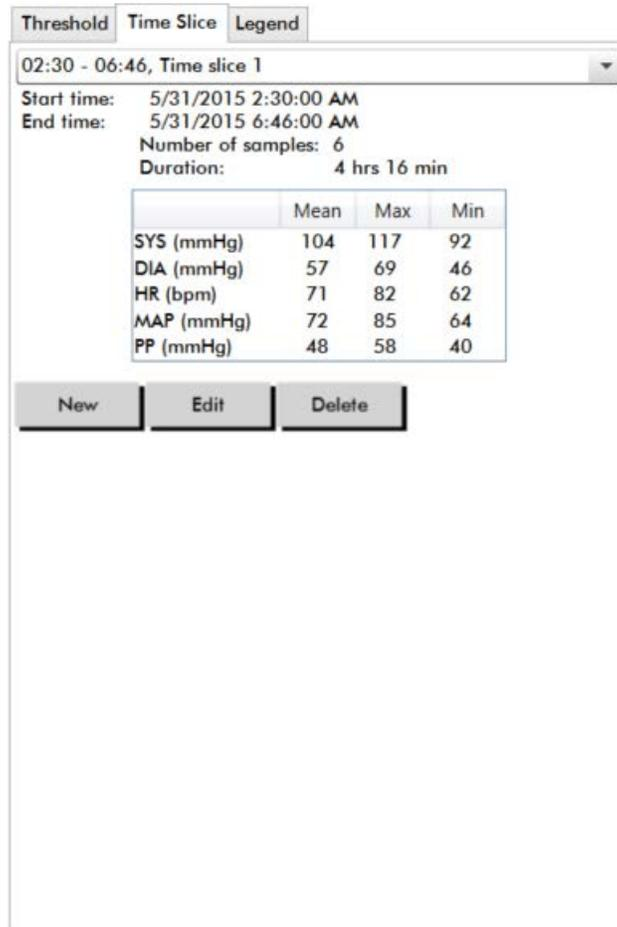

Figure 16: ABP Data Graph, Time-Slice Tab
1. Open a study in the **ABP Data** tab. Within the **Overview Graph** tab, navigate to the **Time-Slice** tab located to the right of the graph view. (Figure 16).
1. Open an ABP study and click the **Time-Slice** tab (Figure 16).